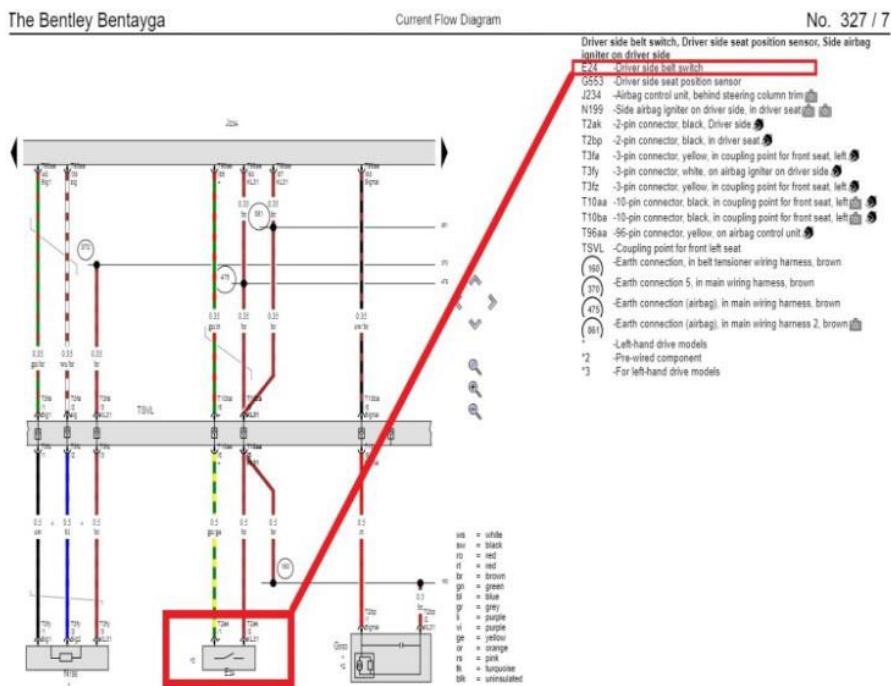

Figure 2
4) Referring to the applicable wiring diagram/Figure 2 - Locate E24